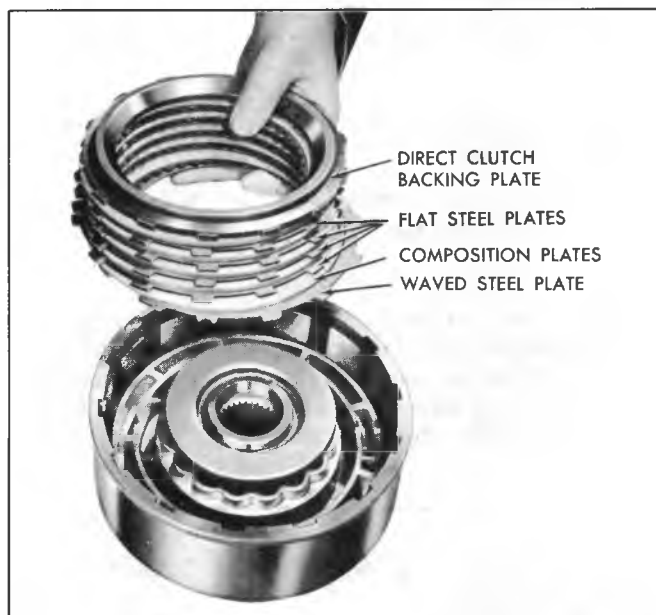

Fig. 90T--Install Direct Clutch Backing Plate, Composition Plates, and Steel Plates
8. a. (Models CA, CD, CJ, CK and CM) oil and install five (5) composition, four (4) flat steel plates and one (1) waved steel plate ("U" Notch), starting with the waved plate and alternating composition and flat steel clutch plates (fig. 90T).
- b. (Model CY) oil and install six (6) composition and six (6) flat steel plates, starting with a flat steel plate and alternating composition and flat steel clutch plates.
- c. (Models CF, CR and CS) oil and install six (6) composition, five (5) flat steel plates and one (1) waved steel plate ("U" Notch), starting with the waved plate and alternating composition and flat steel clutch plates.